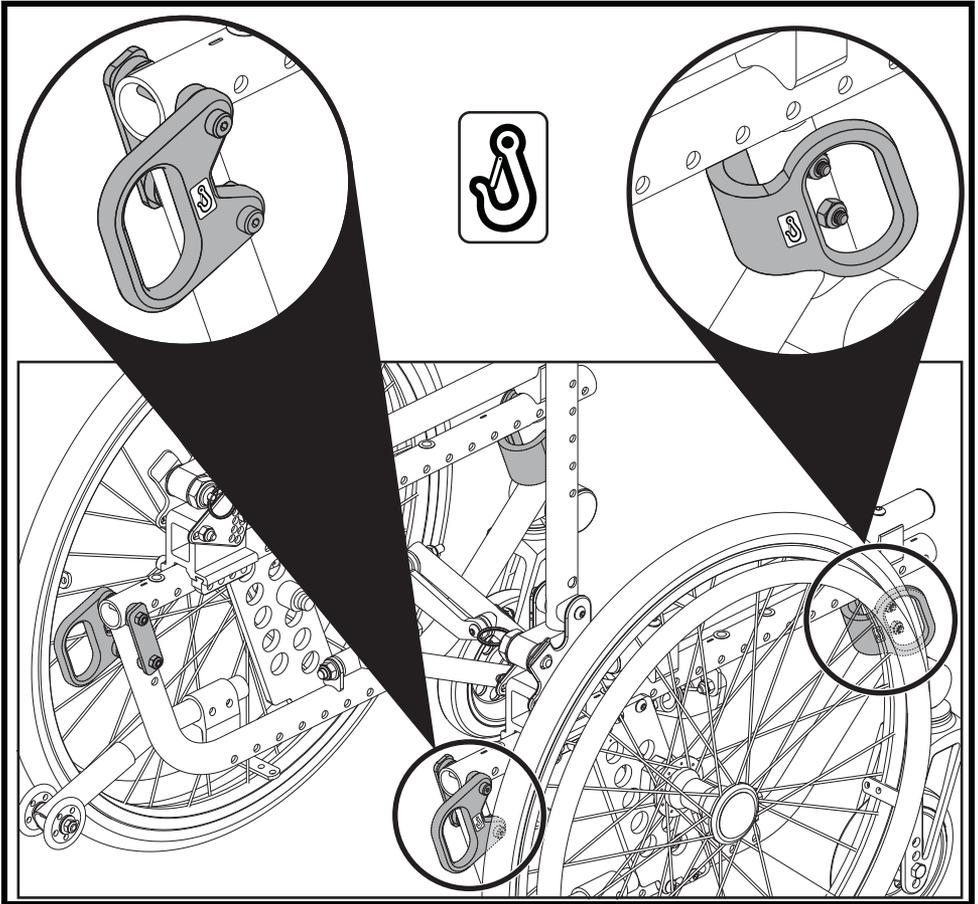

Figure 3. Securement Points on a Litestream Junior
- The Pride Transit Securement Package includes belt restraint anchor points in conformance with ANSI/RESNA WC/Vol. 4, Section 19/ISO 7176-19. See **figure 3**.